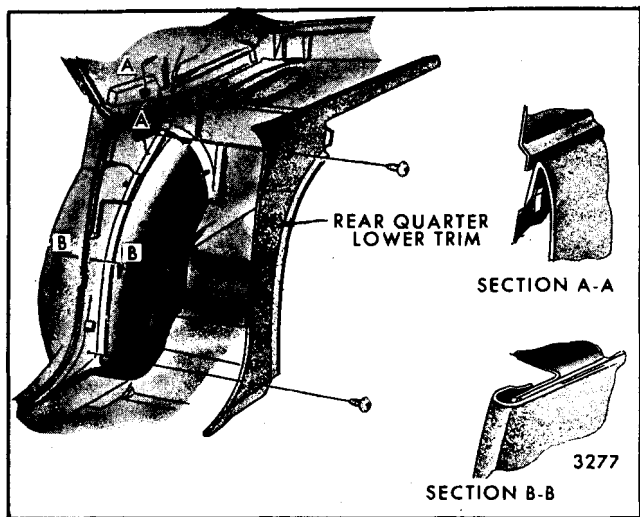

Fig. 13-23-Quarter Trim Assembly Attachment
2. On "A, B and X" styles, remove attaching screws from trim panel (Fig. 13-23) and remove trim panel.